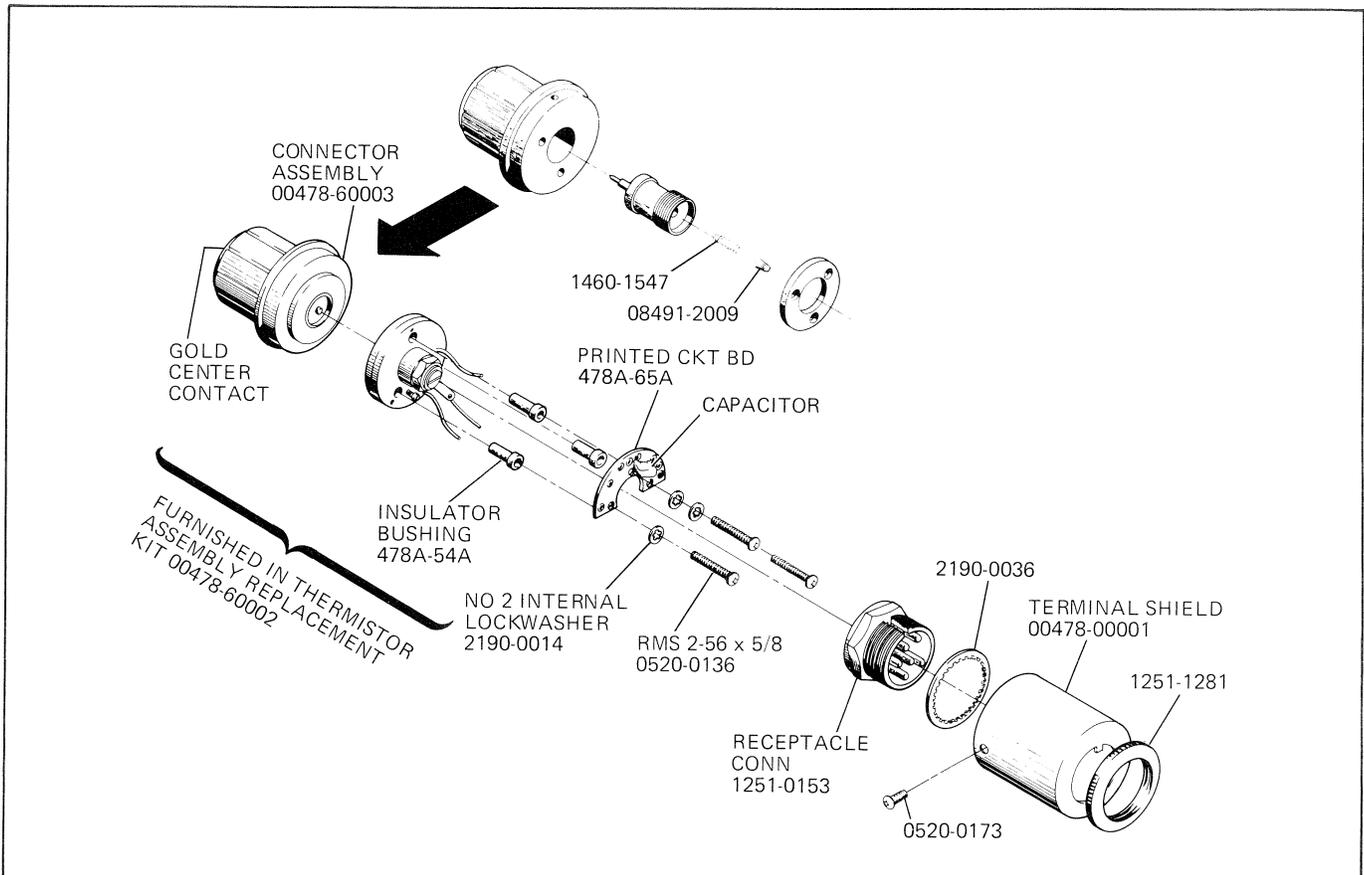

Figure 9. Model 478A Thermistor Mount Assembly
- a. Remove three 2-56 x 3/16 screws holding terminal shield (Figure 9). Move terminal shield aside.
Page 9, Figure 9:
Replace Figure 9 with Figure A-8.